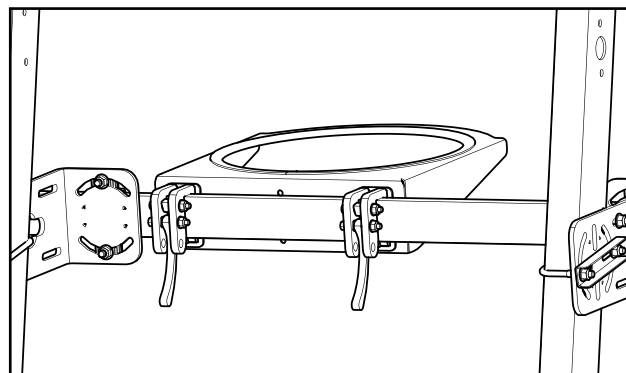

Fig. 1 (attaching the bucket holder)
1. Figure 1 shows a 5-gallon bucket holder installed onto an Artillian ROPS Mounted Tool Bar.